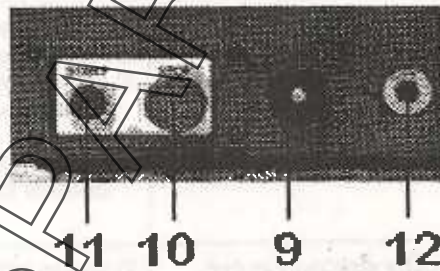

Fig. 3
Select the appropriate saw feed speed by rotating the feed speed adjustment knob located on the control panel (see Fig.3). To increase the feed speed rotate the knob anti-clockwise. To decrease the feed speed rotate the knob clockwise. As a guide, the saw feed speed should be set so that the bow descends at the same speed that the material is being removed. Further, the speed should be adjusted so as to prevent damage to the blade when it first contacts the workpiece, or whilst cutting workpieces that have abrupt changes in section or thin sections.
Before cutting commences ensure that all necessary adjustments have been made, all guards are in position, the workpiece is firmly clamped in the vice and that the sawblade is clear of the workpiece. The bow can be lowered by opening the feed speed control valve (see fig 3).
To commence sawing press the 'on' button on the control panel (see Fig. 3). The blade will move at the speed set and the bow will descend at the rate set. When the cut is complete the blade will stop automatically.
The coolant is controlled by the coolant selector switch on control panel. The rate of flow can be adjusted by moving the flow adjusting lever fitted to the blade guides (see Fig. 13). To turn the coolant off, select the 'Off' position on the coolant selector switch (see Fig. 3).
In the event of an emergency the 'Emergency Stop' button (item 10 fig.3), fitted to the control panel or to the, should be pressed.